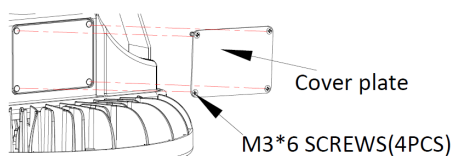
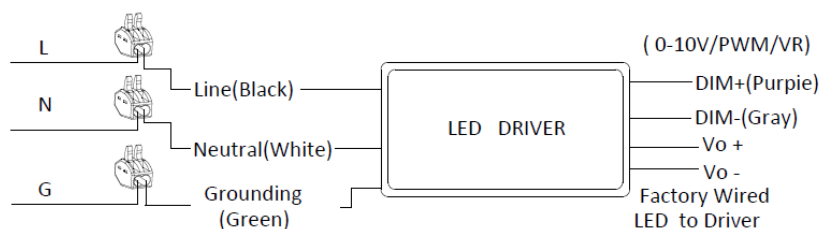
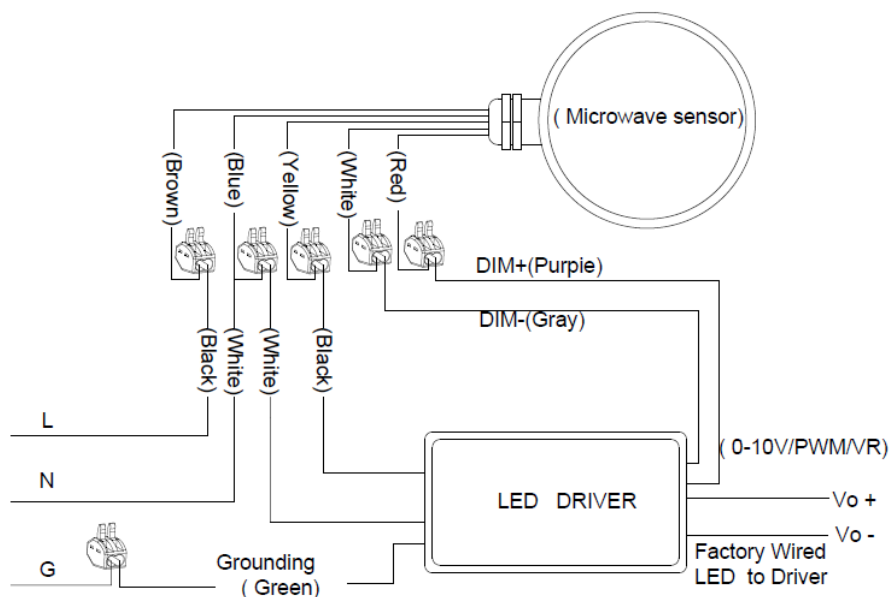

Fig. 10
Fig .17
Fig .18
Insert the main supply cord into junction box through 1/2" hub on the top or side of junction box, use the quick connectors to connect the wires. Please refer to wiring diagrams in Fig. 17 (without sensor) or Fig. 18 (with sensor). please put the wires and connectors into the junction box and screw the cover plate in place. (See Fig. 5).
Insert the main supply cord into junction box through 1/2" hub on the top or side of junction box, use the quick connectors to connect the wires. Please refer to wiring diagrams in Fig. 17 (without sensor) or Fig. 18 (with sensor). please put the wires and connectors into the junction box and screw the cover plate in place. (See Fig. 10).
- Please refer to wiring diagrams in Fig. 17 (without sensor) or Fig. 18 (with sensor) for wiring. After connection, please put the wires and connectors into the junction box and screw the cover plate in place. See Fig. 10.5. The 1/2" hub used for cable entry must be tightly sealed by caulking compound (such as silicone) to ensure waterproof seal.